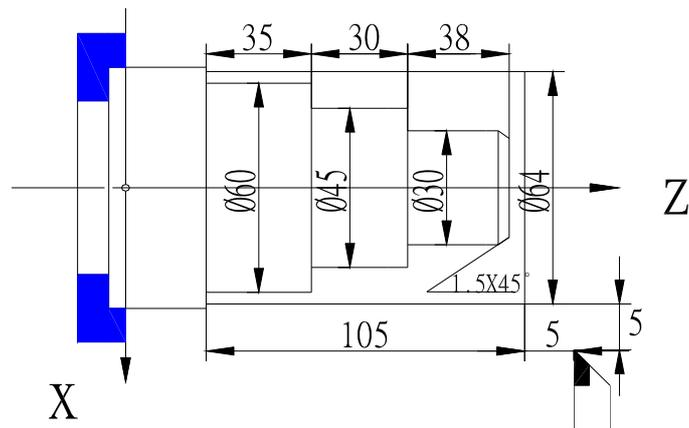

Fig. 33 Outer cylindrical surface machining
**Example 1** : See Fig. 33. Rod:  $\Phi 64 \times 105$  mm. No.1 tool is used for roughing, No.2 for finishing. (G90 inner/outer cylindrical surface turning cycle) .